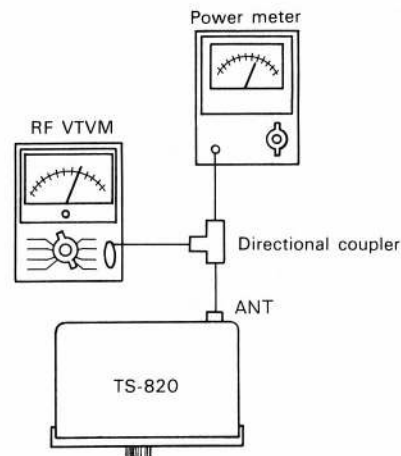

Fig. 34 Adjustment of carrier suppression
- Make connection as shown in **Fig. 34** and adjust 14.175 MHz EW until full power is obtained.
- 1) In **Fig. 34**, make adjustment until maximum output is obtained at 21.225 MHz.